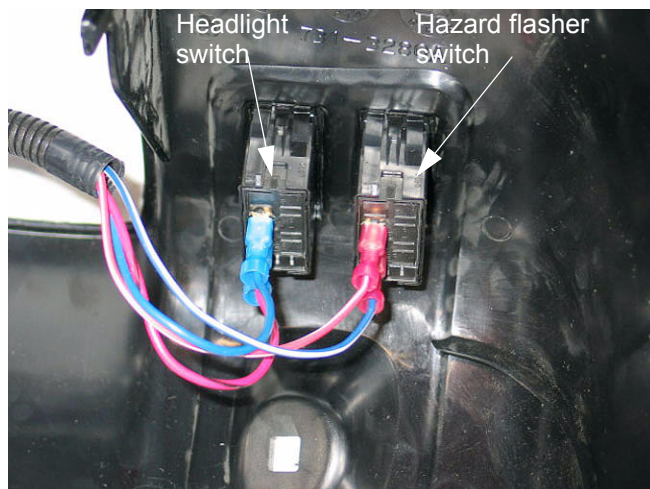

Figure 2.9
2.9. The hazard flasher draws constant hot through the red wire with white trace. See Figure 2.9.